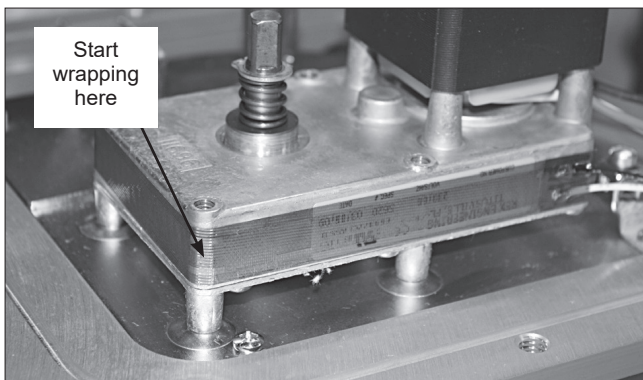

Figure 1.
- 4a) For V – Locate the first 'space' (see Figure 1) on the element from the wire side of the assembly and start wrapping with the 'space' on corner of the gearbox as shown by the arrow.
- 4b) For LV – Locate the second 'space' (see Figure 1) on the element from the wire side of the assembly and start wrapping with the 'space' on corner of the gearbox as shown by the arrow.